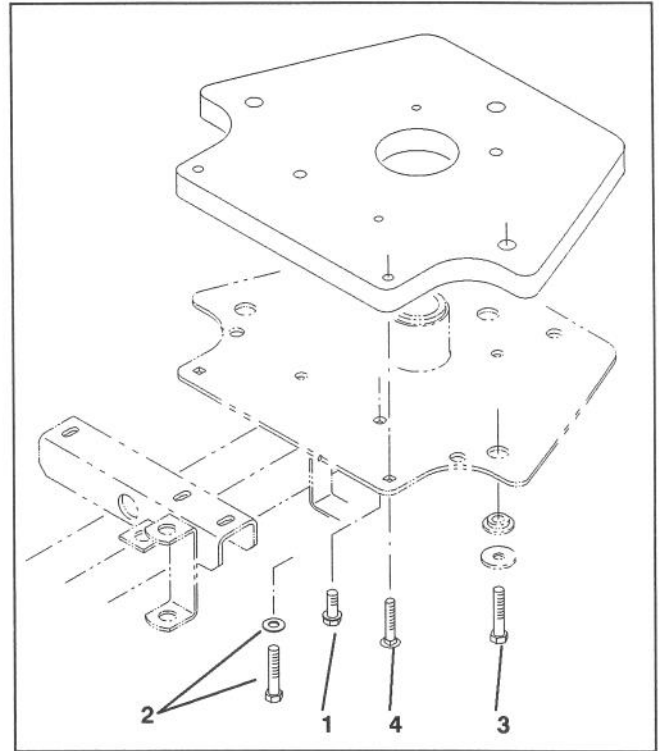

Figure 21
## TO INSTALL REAR WEIGHT KIT, Part No. 83-9370 (Fig. 21)
8. Using threaded holes in second weight, secure it to first weight and frame with (2) 3/8 -16 x 2.00" lg. capscrews and flat washers as shown in figure 21.